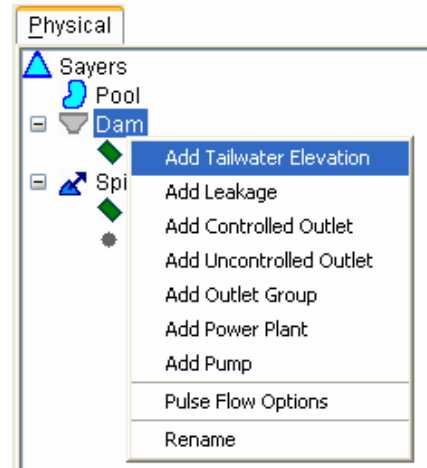

Figure 10.19 Dam Shortcut Menu: Add Tailwater Elevation
On the Physical tab, you may use either the component-specific menus in the Reservoir Editor's menu bar or the right-click shortcut menus (Figure 10.19) to add Tailwater Elevation to a Dam, or Diverted Outlet.
2. Choose **Add Tailwater Elevation** from the shortcut menu (Figure 10.19) or from the component's menu in the Reservoir Editor's menu bar.